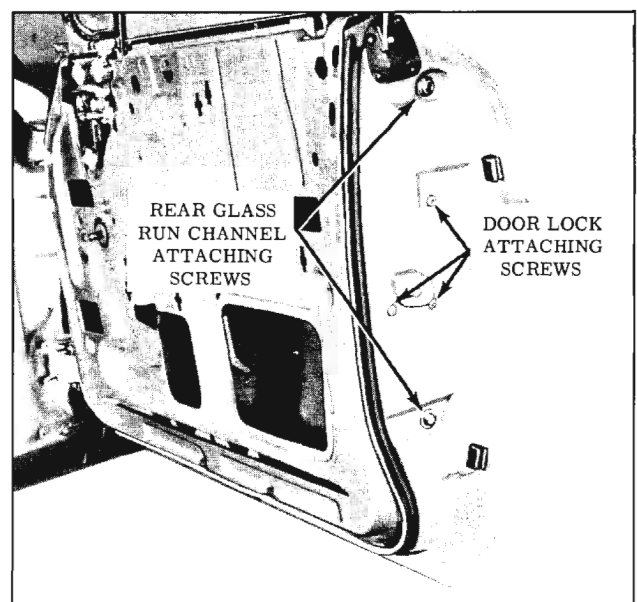

Fig. 16-32 Door Lock and Run Channel
5. Remove door lock attaching screws from lock pillar facing of door and remove lock assembly from door. (Fig. 16-32)
4. To adjust upper rear of window assembly in or out for proper contact with side roof rail weatherstrip, or to adjust rear of window assembly in or out at belt line, loosen rear glass run channel attaching screws at lock pillar facing of door and screw at top of door inner panel. Position channel in or out as required and tighten screws. (Fig. 16-32)